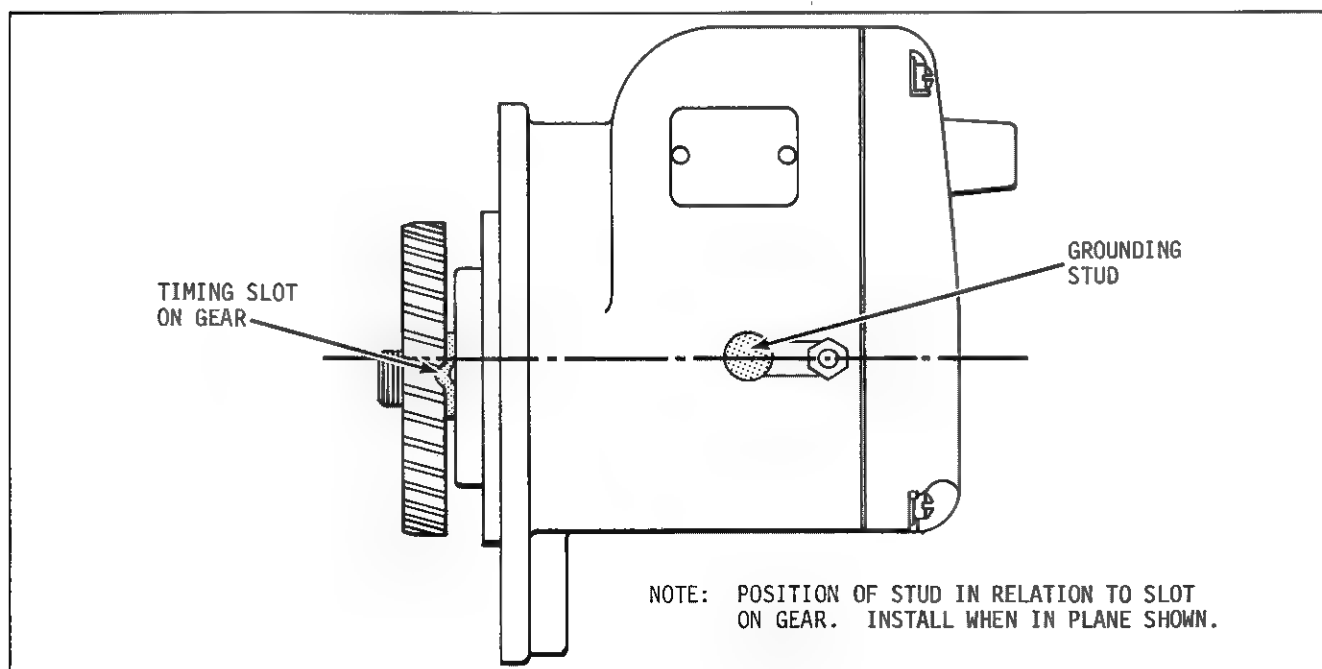

FIGURE 6-4 -- TIMING MARKS -- STANDARD MAGNETO
2. Turn magneto gear in clockwise direction (when facing gear end) until impulse coupling trips--loud click will be heard. After coupling trips, back up slightly (turn in counterclockwise direction) on gear until it drags lightly and remains in stationary position. Refer to Figure 6-4 for relative position of slot in gear to grounding stud when timing position is reached.